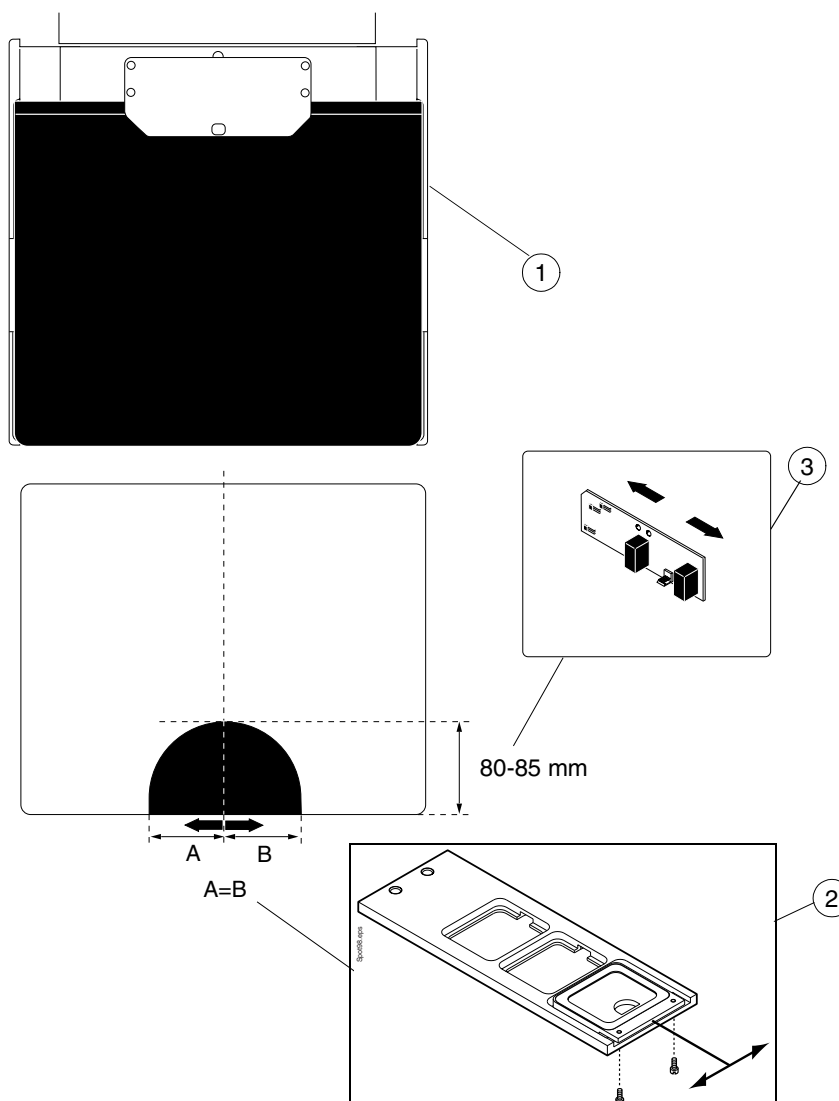

Figure F.7
- Place a loaded large cassette on a cassette table (Fig. F.7, 1).
- Check that the exposed area corresponds to the area in Fig. F.7.
- Loosen the spot collimator assembly screws and perform the side direction adjustment (Fig. F.7, 2).
- The back/front adjustment is performed by moving the COLLIMATOR PCB (Fig. F.7, 3). After adjustment make sure that the collimator worm-screw nut does not hit the collimator lower frame or stick to the beginning of the worm-screw. If needed, adjust the collimator limit sensors, see "Collimator mechanism limit sensors" on page F-44.